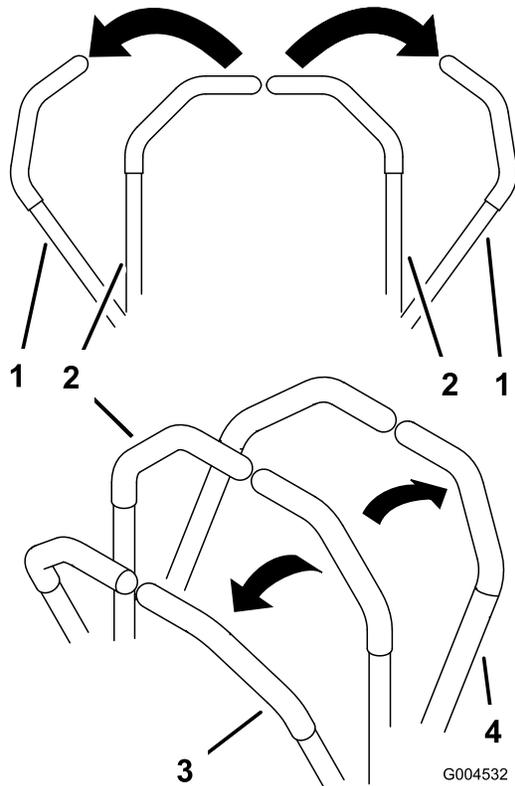

Figure 15
2. To go forward, slowly push the motion control levers forward (Figure 15).
To turn, release pressure on the motion control lever toward the direction you want to turn (Figure 15).
2. To go backward, slowly pull the motion control levers rearward (Figure 15).
To go straight, apply equal pressure to both motion control levers (Figure 15).
To turn, release the pressure on the motion control lever toward the direction you want to turn (Figure 15).